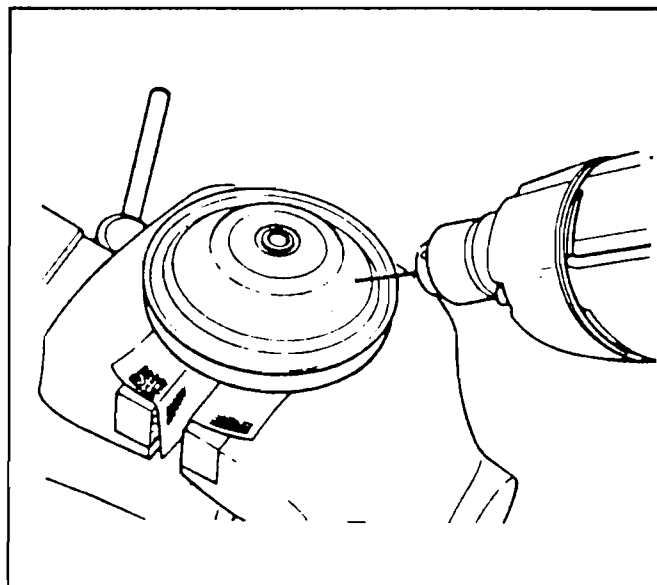

Figure 16
2. After removing the low-reverse servo piston, drill a $.031 \pm .002''$ (#68 Drill) diameter hole through the piston top surface. This can be facilitated by inserting the servo in a vise. Allow the top of the servo to be supported by the vise not clamped in the jaws. Clean the metal shavings from the drilled hole and from the piston (Figures 16 and 17).